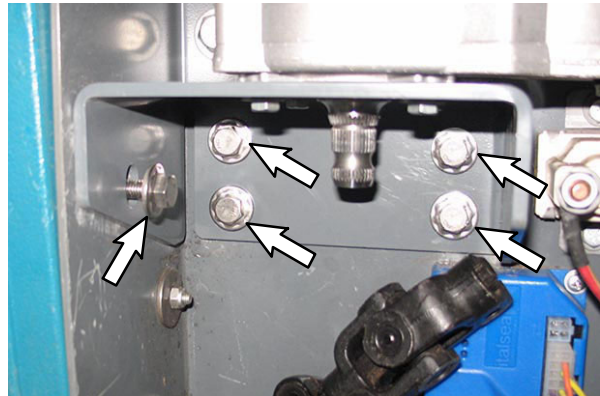

FIG. 5
6. Remove the five SEMS M8 hex screws securing the power steering motor assembly to the steering support channel. Set the SEMS M8 hex screws aside. (Fig. 5)